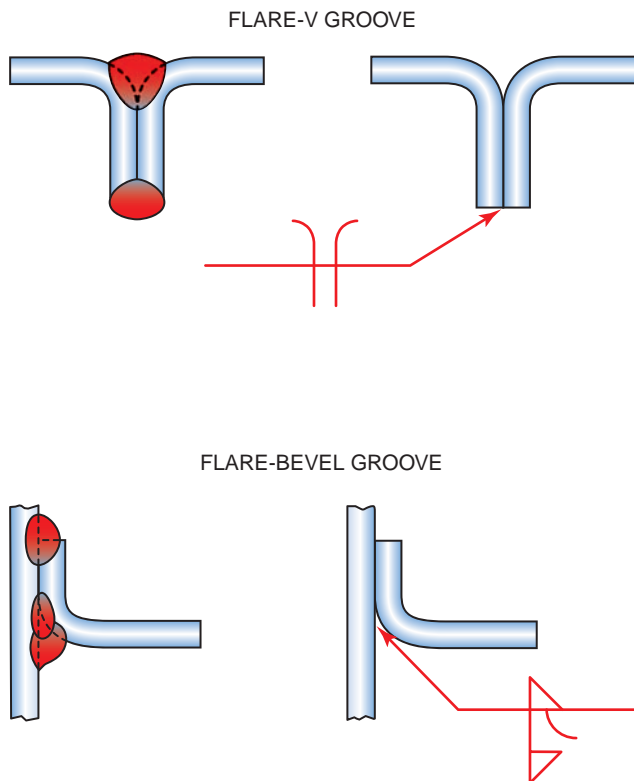

FIGURE 17-36 Designating flare-V- and flare-bevel-groove welds. Courtesy of the American Welding Society.
- The size of flare-groove welds is considered to extend only to the tangent points of the members, **Figure 17-36**.